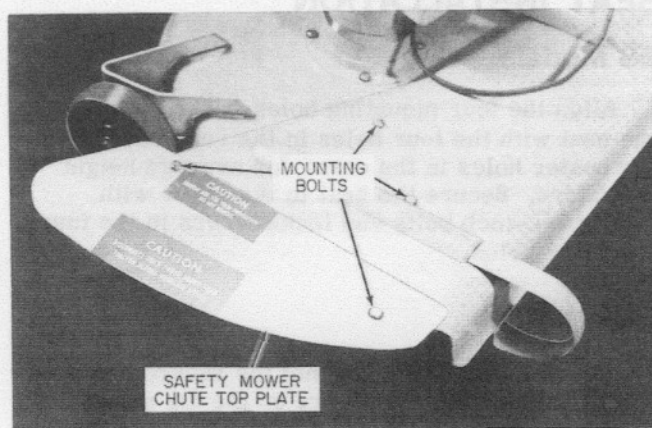

Figure 12
5. Install the safety mower chute as illustrated in Figures 12 and 13. Pass a 1/4-20 x 5/8-inch bolt through each of the holes in the top plate, the holes nearest the lip of the mower deck opening, and the front two holes in the guard inside the chute. Secure them with lockwashers and nuts. Pass two more 1/4-20 x 5/8-inch bolts through the other pair of holes in the mower deck and guard, and fasten them with lockwashers and nuts. Tighten the nuts securely.